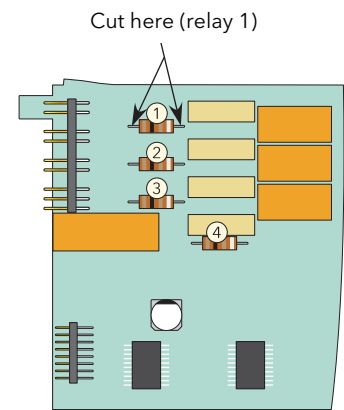

Figure 2.3.14e
4. Once the board has been removed, and placed in a suitable static safe area, the relevant resistor leads can be cut, using a suitable pair of side cutters or similar. Figure 2.3.14e shows the locations of the relevant resistors numbered according to their associated relay. The snubber circuits are also identified on the circuit board.